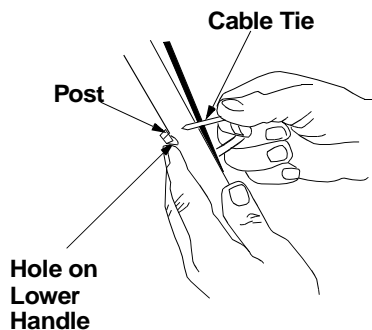

Figure 5
- Insert post on cable ties into holes provided on the lower handle. Pull the cable tie tight and trim the excess. See Figure 5.